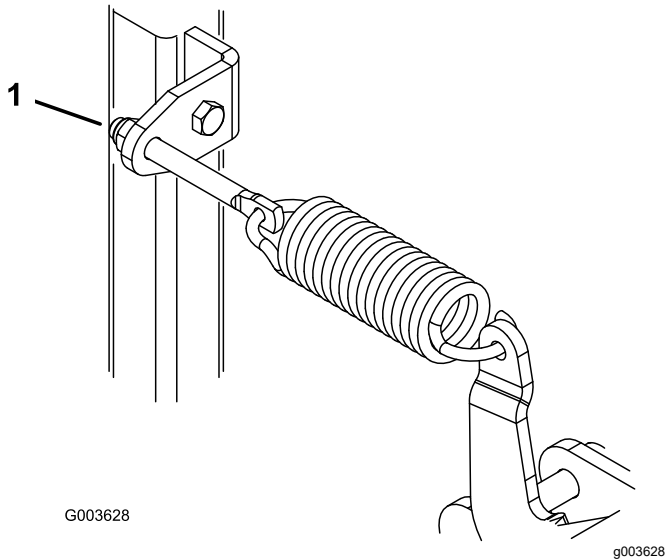

Figure 15
2. Rotate the spring adjusting nuts (Figure 15) clockwise to raise the blade or counterclockwise to lower the blade.